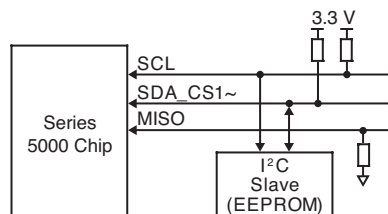

Figure 2: Using the I2C Interface for External NVM EEPROM Memory
**Using the I2C interface.** When using the I2C interface for external EEPROM, the Neuron 5000 Processor is always the master I2C device (see Figure 2). The clock speed supported for the I2C serial memory interface is 400kHz (fast I2C mode). The I2C memory device must specify I2C address 0. Both 1-byte and 2-byte address modes are supported, but 3-byte addressing mode is not.